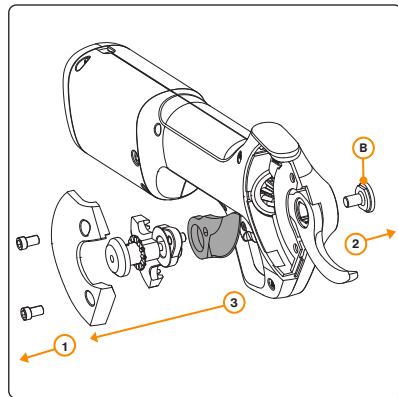

Figure 8. Changing the cutting blade. Follow the sequence of the numbers.
3. **Loosen blade-lock screws.** Make two turns on the (2) 4 mm Allen screws (Figure 8 Step 1)
4. **Unscrew blade-mounting screw.** (Figure 8 Step 2, image B)
5. **Swap old blade with new blade.** (Figure 8 Step 3)